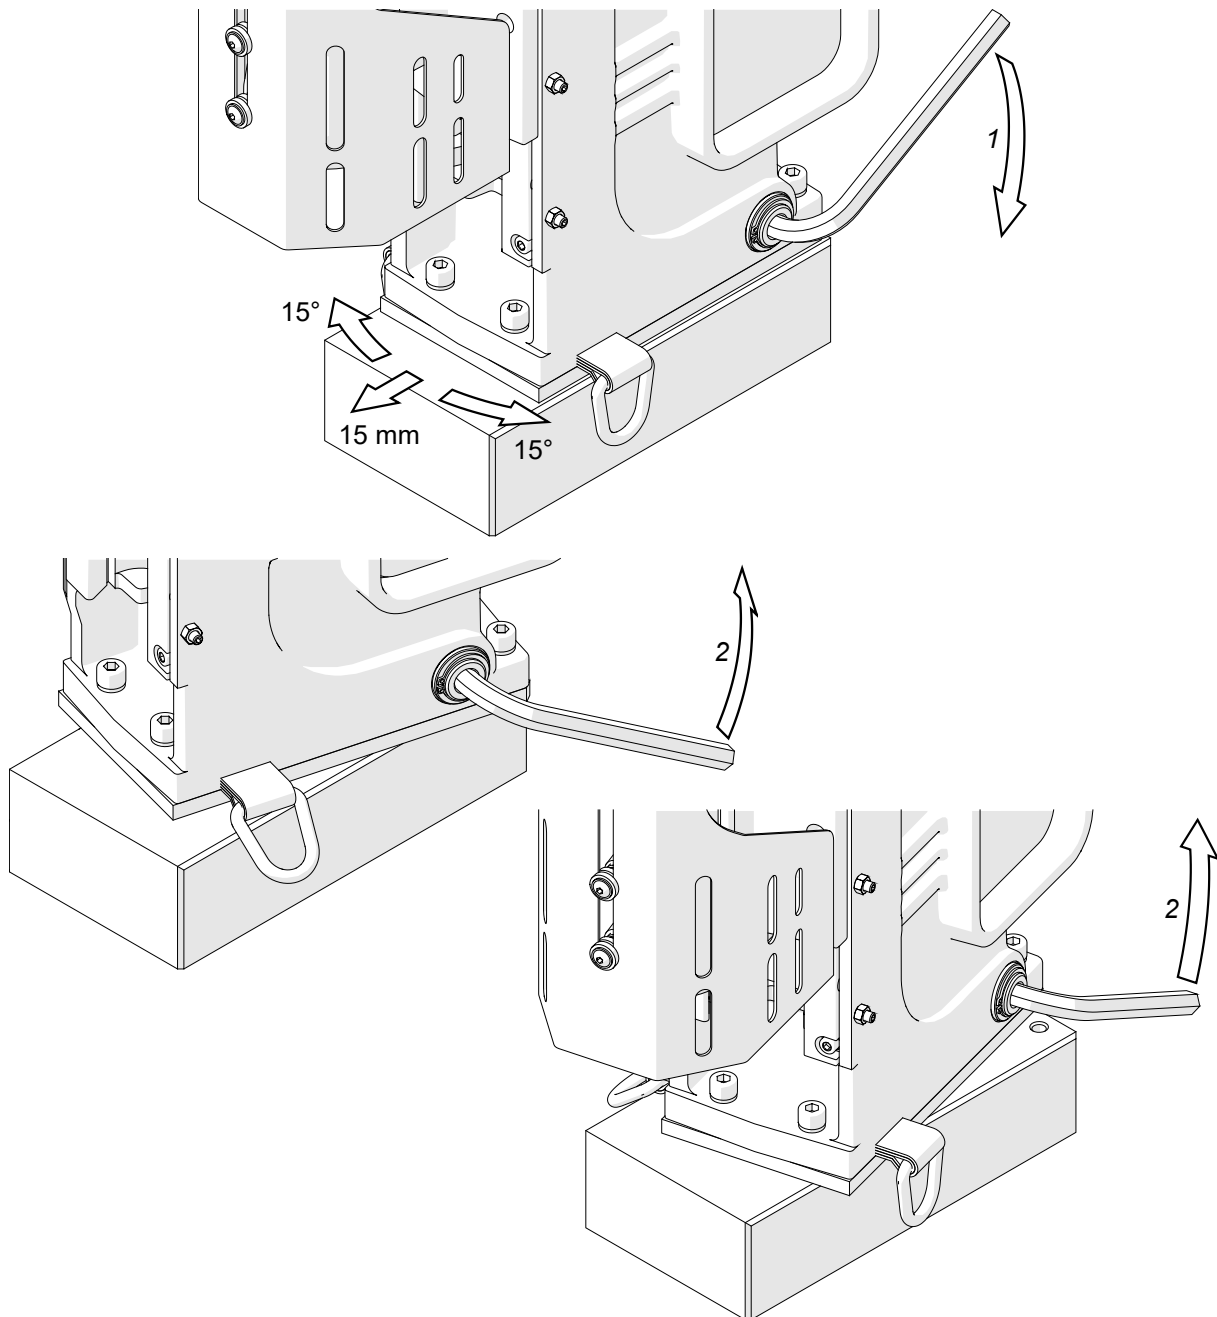

Fig. 10. Positioning the D3X RS precisely
To rotate or to move out the machine body when the electromagnetic base is clamped to the workpiece, use the 10 mm hex wrench to unlock the eccentric shaft (1, Fig. 10), set the body in desired position, and then lock the shaft (2).